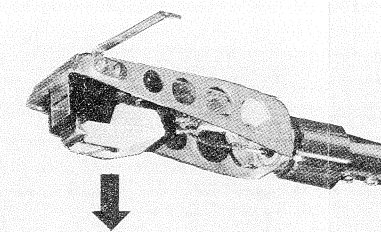

Figure 11
- Exchange of the stylus can be done as shown in figure 11.